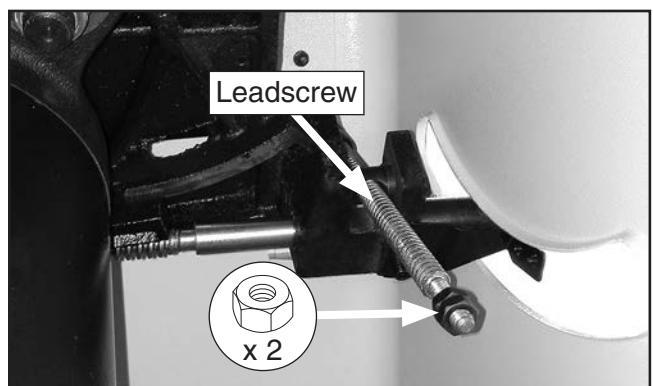

Figure 113. Location of 90° stop nuts.
5. Loosen (2) M8-1.25 hex nuts on leadscrew (see **Figure 113**).